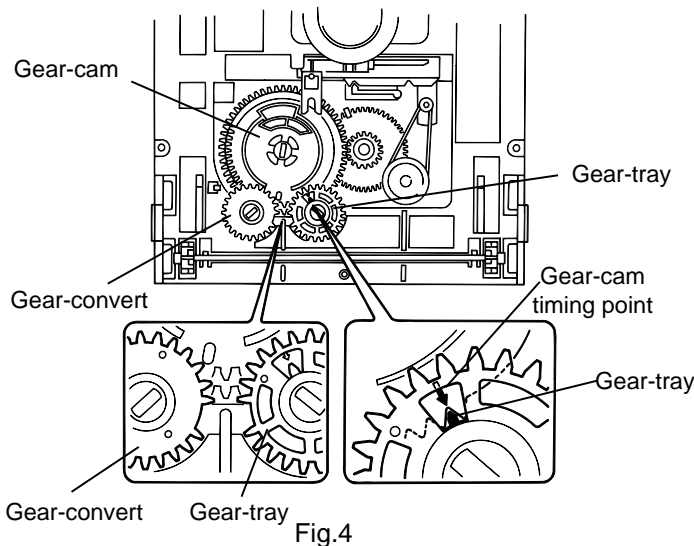

Fig.4
■ Reinstall the DVD tray (See Fig.4 and 5)